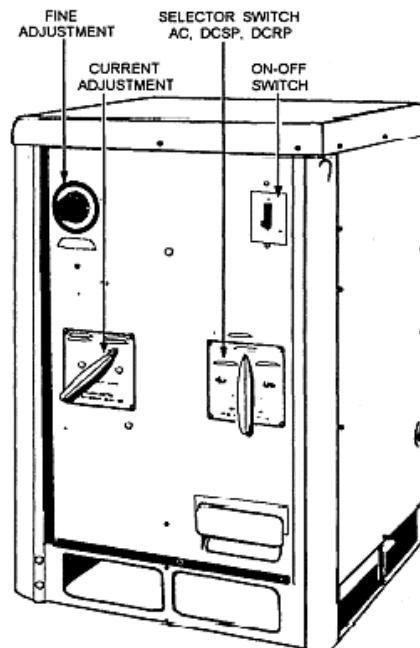

Figure 7-3.—Combination ac, dc transformer-rectifier arc welder.
**RECTIFIER WELDING MACHINES.**—Rectifier welders are single-phase or three-phase transformers that have selenium or silicon rectifiers added to rectify (change) the output current from alternating to direct current. Most of these machines have the capability of producing either ac or dc straight or reverse polarity current. By flicking a switch, the welder can select the current that best suits the job. Figure 7-3 shows an example of a combination ac/dc rectifier.